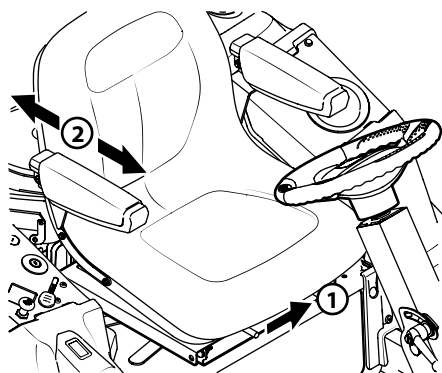

Figure 2-6
1. To adjust the position of the seat, push the seat adjustment lever to the left. See Figure 2-6.
2. Slide the seat forward or rearward to the desired position; then release the adjustment lever. Make sure seat is locked into position before operating the tractor. See Figure 2-6.